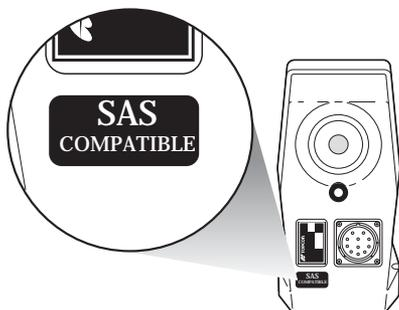

Figure 9-2. SAS Compatible Decal Location on Sonic Tracker
3. Check to see if a Tracker without SAS code is attached to the cable. Verify that the tracker has a SAS compatible decal near the S/N label (Figure 9-2 on page 9-18).